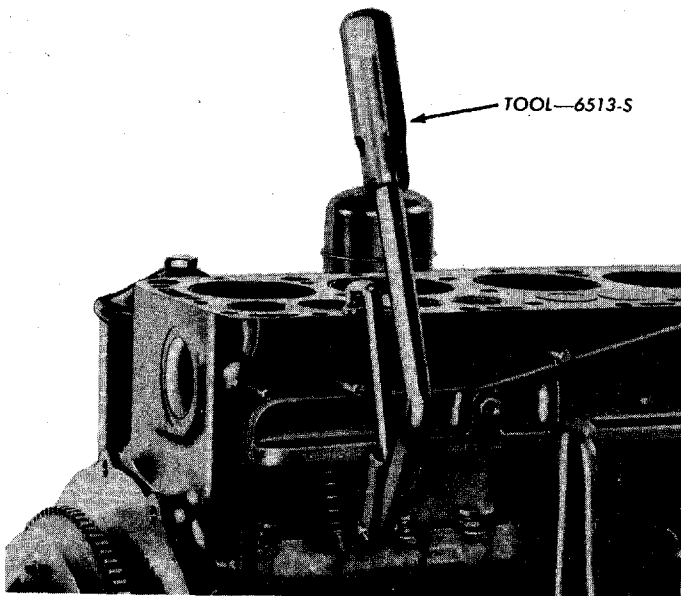

Fig. 27—Valve Spring Remover and Replacer
Remove the cylinder head. Remove the manifolds. Remove the valve chamber covers. Crank the engine until the tappet rests on the heel of the cam. Compress the valve spring and remove the valve spring retainer locks. Remove the valve. Remove the valve spring and spring retainer as shown in fig. 27. The valve spring retaining sleeve used with rotatable valves will remain on
(9) **INSTALLATION.** Install the retainer and the valve spring with the tightly wound coils in the up position against the block using the tool shown in fig. 27. Insert the valve in the guide and align it with the spring retainer. For non-rotating valves, press the spring and install the valve spring retainer locks as shown in fig. 35. For rotating valves, compress the spring, lift the valve, align the retainer sleeve with entrained valve locks under